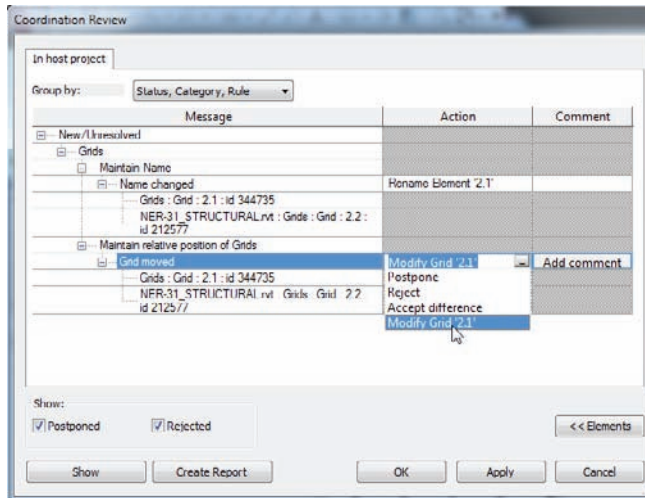

FIGURE 20.15 Telling Revit to automatically move and rename the grid
10. In the Coordination Review dialog, expand the category for the Grids (under the New/Unresolved category), as shown in Figure 20.15.